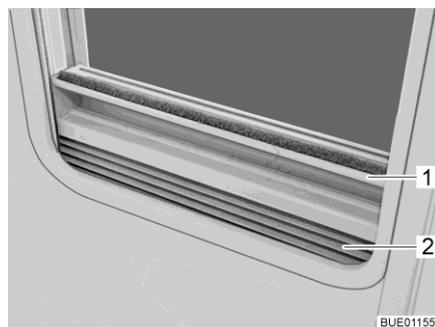

Fig. 37 Roman shade
- Closing:** ■ Grip the Roman shade (Fig. 37,2) in the middle of the holding bar (Fig. 37,1), pull it upwards and then release it at the desired height. The Roman shade will stay at this height.